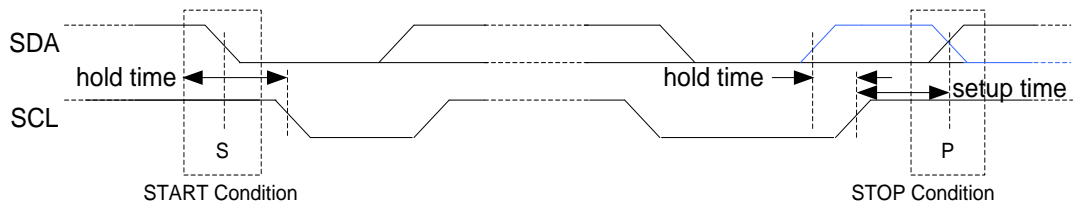

Figure 40. START and STOP (or repeated START, blue line) condition
An idle I²C bus state occurs when both SCL and SDA are not being driven by any master and are therefore in a logic HI state due to the pull up resistors. Every transaction begins with a START (S) signal and ends with a STOP (P) signal. A START condition is defined by a high to low transition on the SDA while SCL is high. A STOP condition is defined by a low to high transition on the SDA while SCL is high. START and STOP conditions are always generated by the master. This slave module also supports repeated START (Sr) condition which is same as START condition instead of STOP condition (the blue-color line shows repeated START in Figure 40).